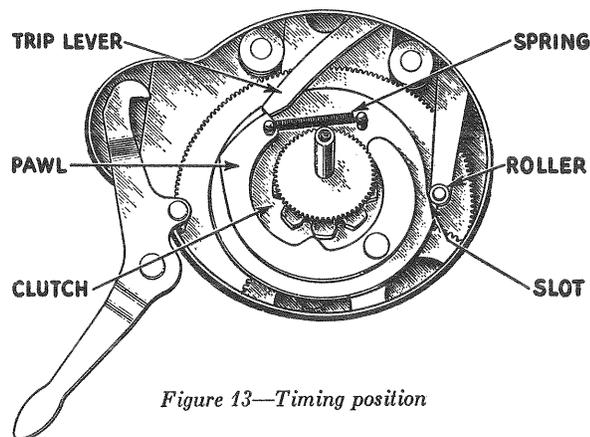

Figure 13—Timing position
Check the position of the trip lever and roller at this time to see that they are approximately as shown in Figure 13. If the various parts are not in their proper relation, the mechanism should be retimed.
- (d) Lower the pawl carrier into mesh with the gears so that the trip lever is touching the end of the pawl as shown in Figure 13, when the cable lever roller is engaged in the slot on the side of the pawl carrier as shown.
(14) REMOVING MOTOR BOARD